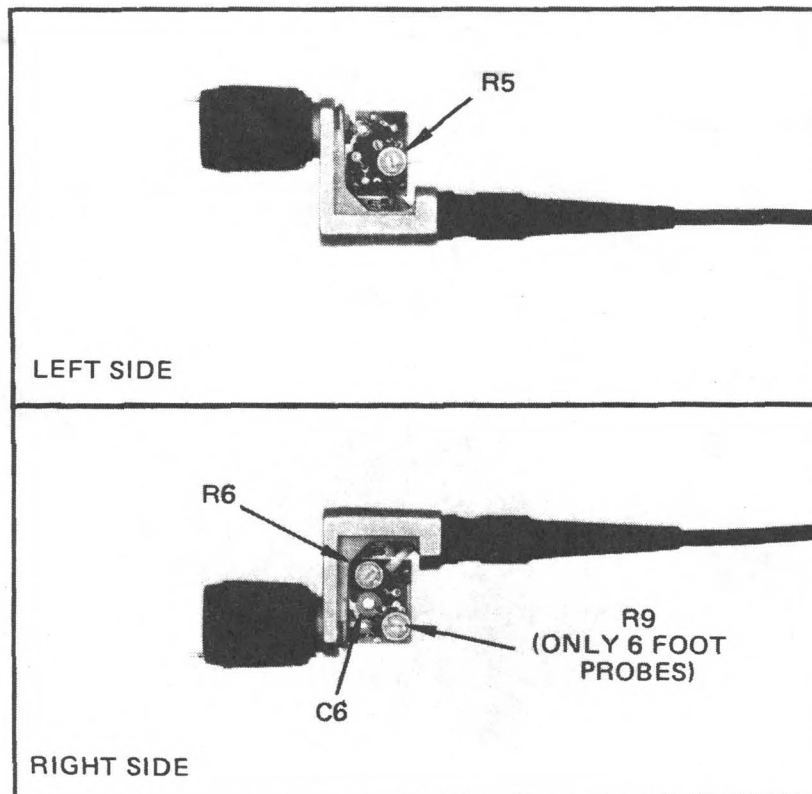

Fig. 5 High-frequency adjustments.
- b. Adjust R5 and R6 (also R9 for 6-foot probe) for best overall flat response. See Fig. 5 for adjustment locations.